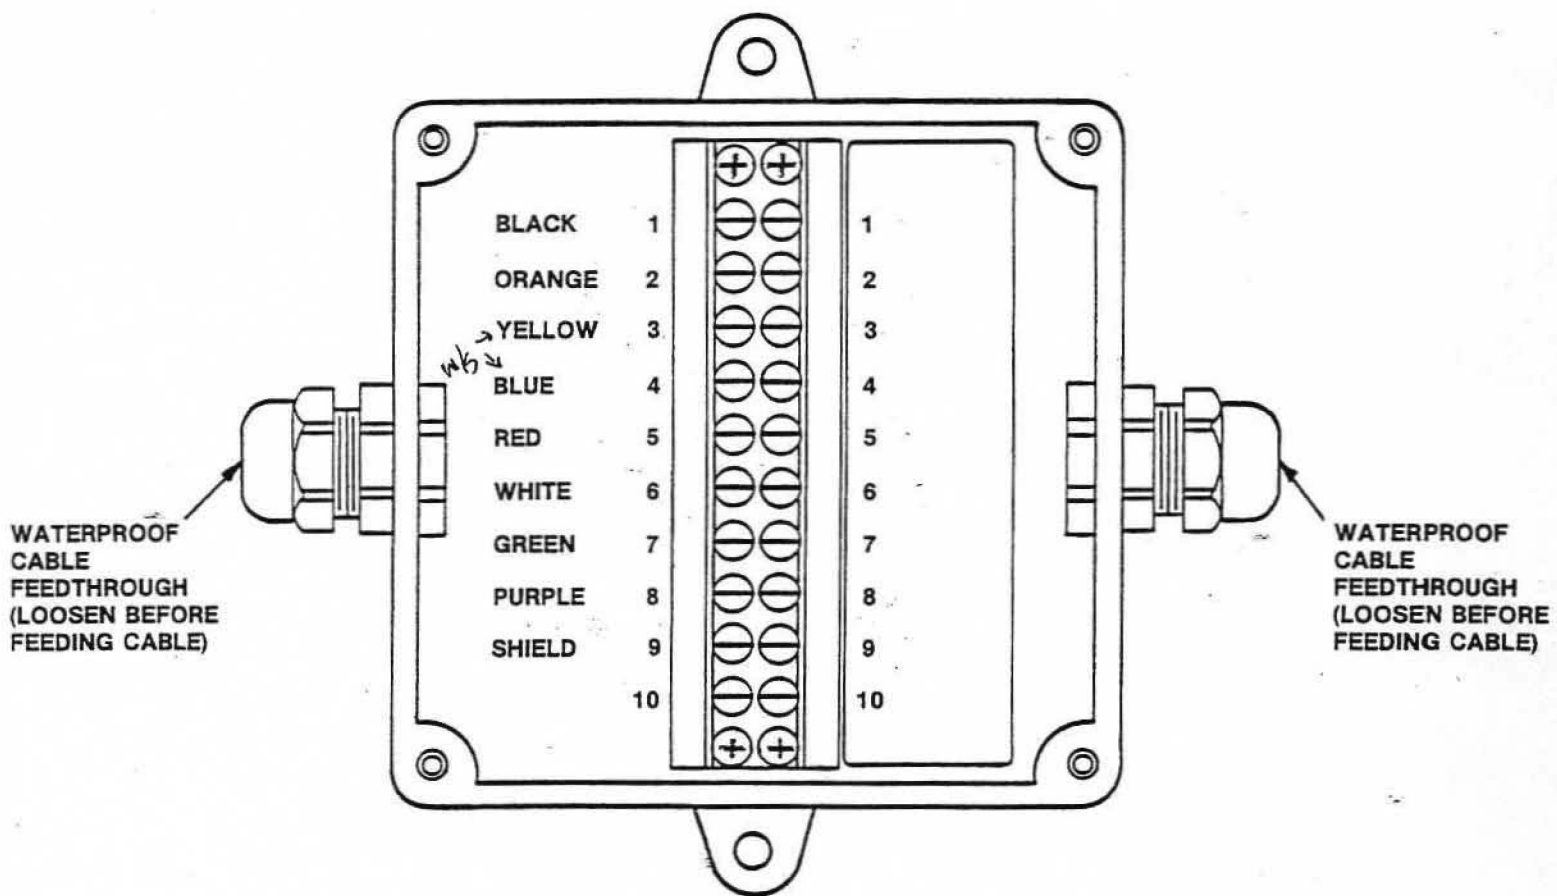

Figure 4: Junction box cable connections (top removed).
7. Disassemble the top of the junction box and loosen both waterproof cable feedthroughs (see Figure 4). Feed the cut end of the mast cable all the way through the nearest feedthrough. Firmly tighten the feedthrough.